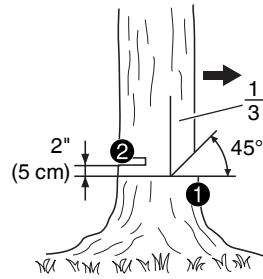

Fig. 29
- (1) Undercut (1) as shown in Fig. 29):
- (2) Back cut (2) as shown in Fig. 29):